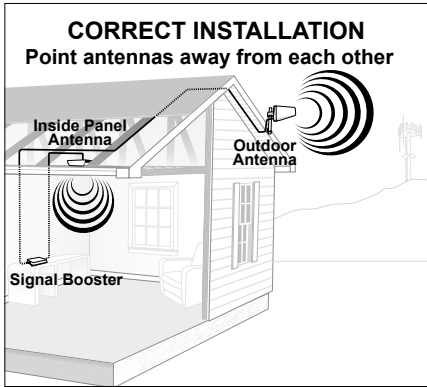

Figure 1
The antenna should be mounted as shown in the illustration above. The mounting bracket, included with antenna, is adjustable and will accommodate pipe diameters from 1.25" to 2" (pipe sold separately #901117). Mount the antenna so that there is at least 3 feet of clearance in all directions around it. Position the antenna so that it has an unobstructed line of sight to the cell tower's strongest signal. Make sure the antenna is not pointing across your own roof or at the Inside Antenna as this will cause the oscillation protection circuitry to shut down the Signal Booster (see Figures 1 & 2 on page 10).
**Note:** Never point the front of a Directional Antenna toward the Inside Antenna. See Figures 1 & 2 on page 10.
1. Never point the front of a Directional Outside Antenna toward the Inside Antenna. See Figures 1 & 2 on page 10.